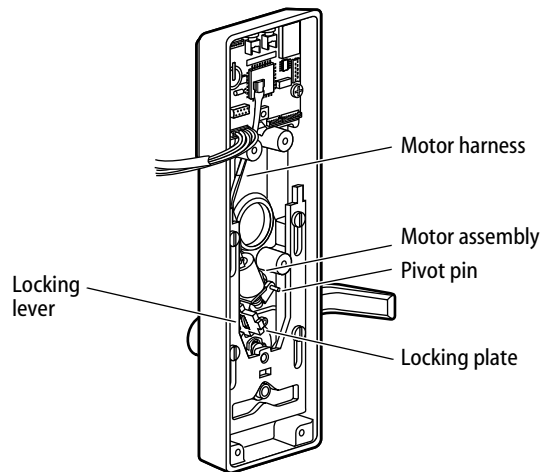

Figure 6 Rerouting the motor harness
- 4 Route the motor harness into the groove in the escutcheon. See Figure 6.